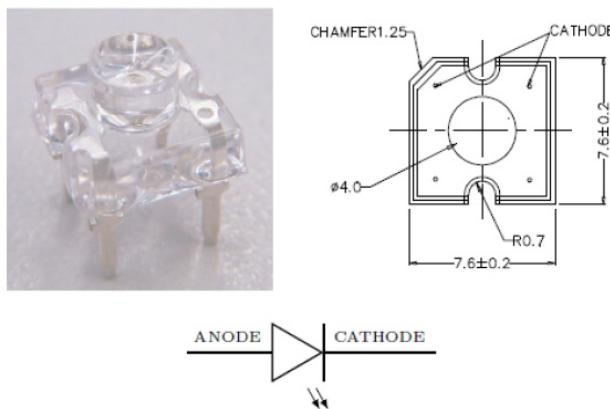
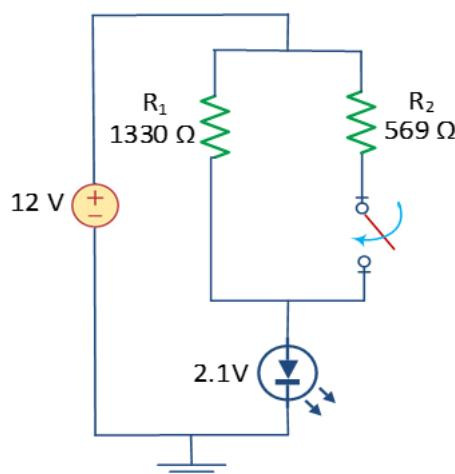

Figure 2.2. OVFSRAC8 LED schematic.
Figure 2.4. Single LED functioning as stop-rear light.
The schematic of the OVFSRAC8 LED, reproduced from its datasheet2, is shown in Figure 2.2. Note that, even though it looks like a 4-terminal element, this LED is, in fact, a 2-terminal element (pins are connected 2 by 2). Note also the presence of a distinguishing mark of a flat side on the top left corner which indicates where the cathode is.
**B.1** Set up the circuit in Figure 2.4, keeping Figure 2.2 in mind to properly connect the LED and that the resistors are not preferred-value (standard) ones. You should use two standard resistors, and connected them properly, to obtain an equivalent  $R_1$ . For  $R_2$ , you can use the closest preferred-value resistor. Complete the Table below.
Adjust the output voltage of the DC power supply according to Figure 2.4 and set the current limit to 0.5 A (see Power Supply section in Appendix for details). Then, use the digital multimeter to measure the voltages and currents in **REAR POSITION mode**, and calculate the power as the product of the two. Write the values in the Table below.